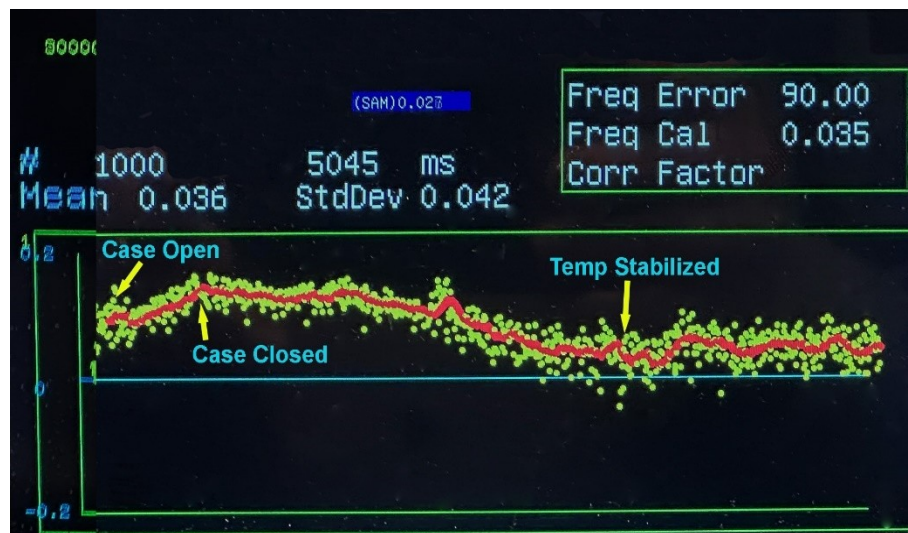

Figure 3 Effect of Temperature Variation
- As mentioned, temperature variations may cause the LO frequency to vary. For instance, Figure 3 shows the result of opening and closing the T41 case during the plot time. The plot duration is approximately 1.3 hours.